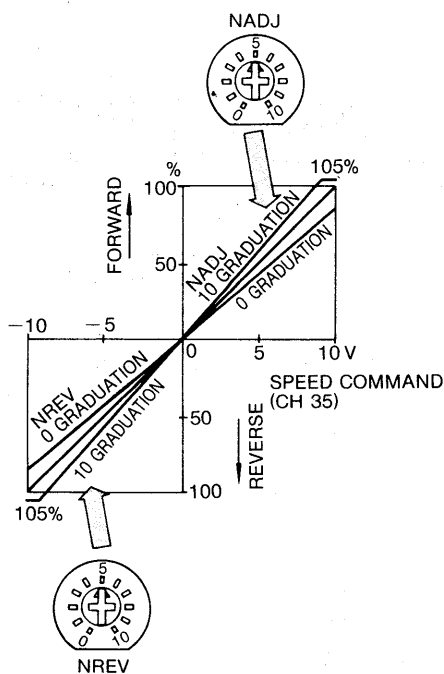

Fig. 4.1 Speed-Setting Scale Characteristics
5. Run the motor in reverse direction and adjust NREV so that the rated motor speed is obtained. Turning NREV clockwise increases motor speed. The characteristics of speed-setting scale is shown in Fig. 4.1.